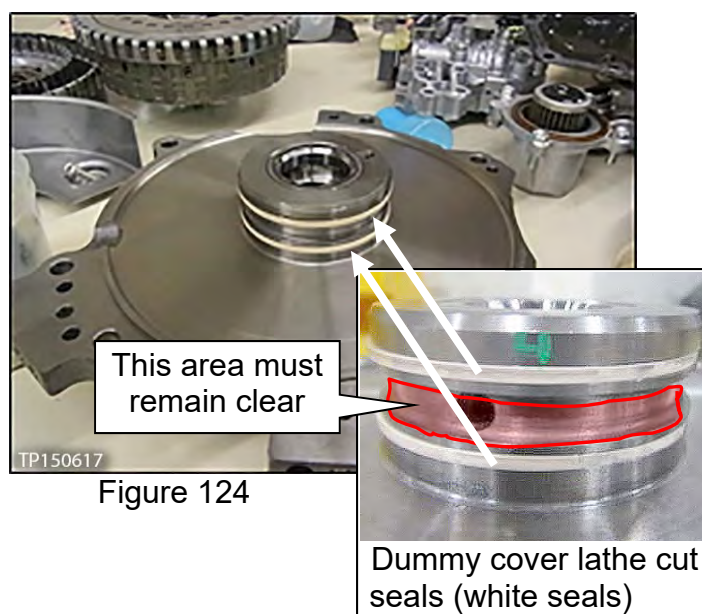

Figure 124
98. Apply petroleum jelly or equivalent to the dummy cover's lathe cut seals (Figure 124) before installing the dummy cover to the CVT case.